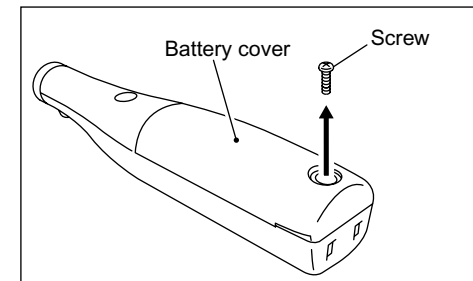

Fig.18
- ③ Remove the screw fixing the battery cover with a Phillips screwdriver. (Fig. 18)